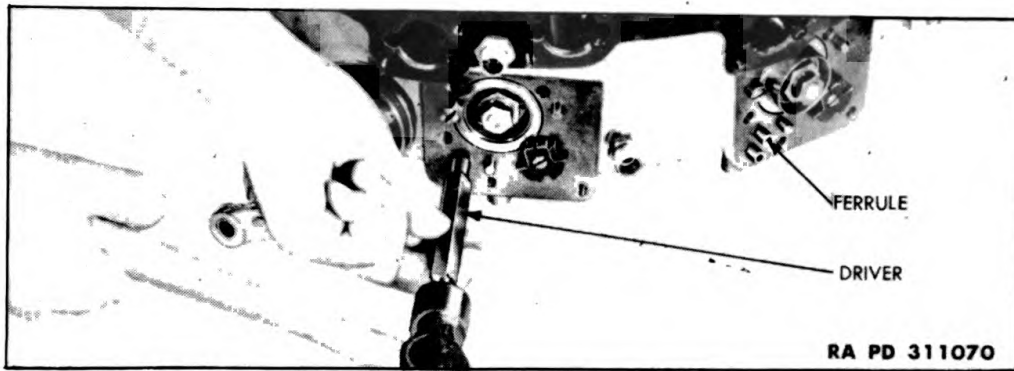

Figure 34 – Installing Crankcase Ferrule, Using Driver 5A2161
(4) **CRANKCASE FRONT SECTION.** New ferrules may be installed in fuel pump pads of crankcase front section with driver (5A2161) (fig. 34).